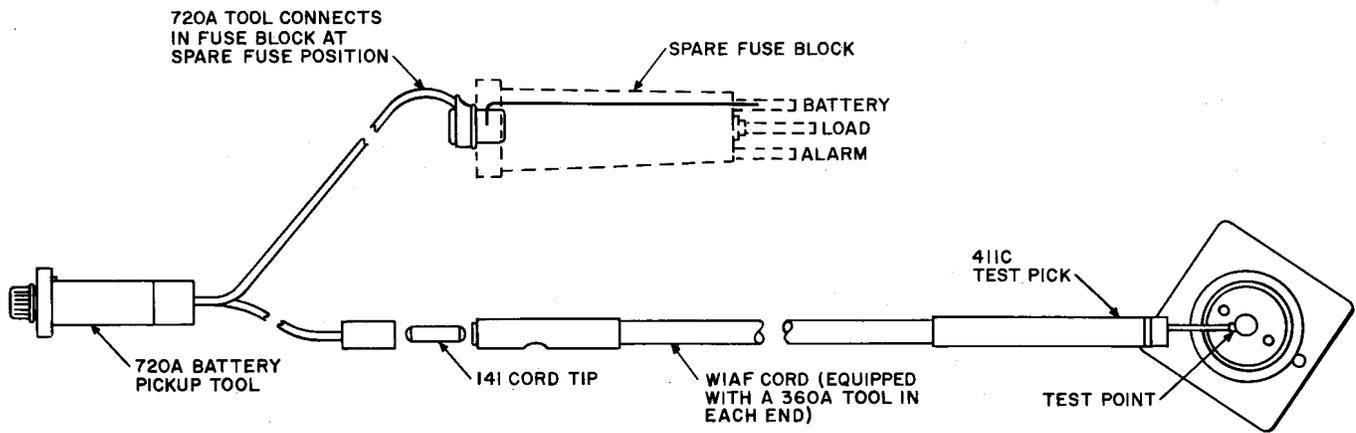

Fig. 2—Fuse Alarm Testing Cord—Tool Connection
(1) Prepare the alarm test cord by connecting one end of the W1AF testing cord to the 141 cord tip and 720A voltage pickup tool. (The KS-6278 connecting clip may be used to replace the 720A voltage pickup tool.) On the opposite end of the W1AF testing cord, connect the 411C test tool (see Fig. 2).
(2) Install the 720A voltage pickup tool in a spare 70-type fuse position. (If the 720A tool is not available, obtain the same polarity voltage supply by connecting a KS-6278 connecting clip with the W1AF testing cord to the positive or negative bus bar.)